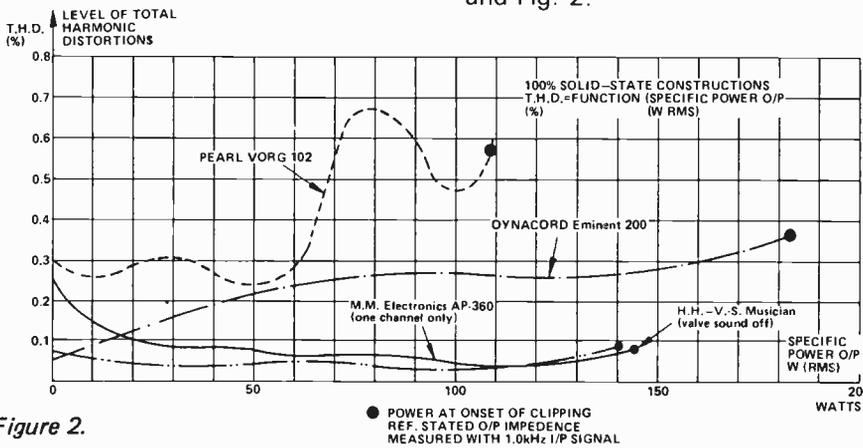

Figure 2.
1. H.H. V.S. Musician Reverb 100W Amplifier (GB)
4. "MM" Electronics - AP 360 Dual Power Slave (GB)
- and the results of experiments on this group are presented in Table 2 and Fig. 2.